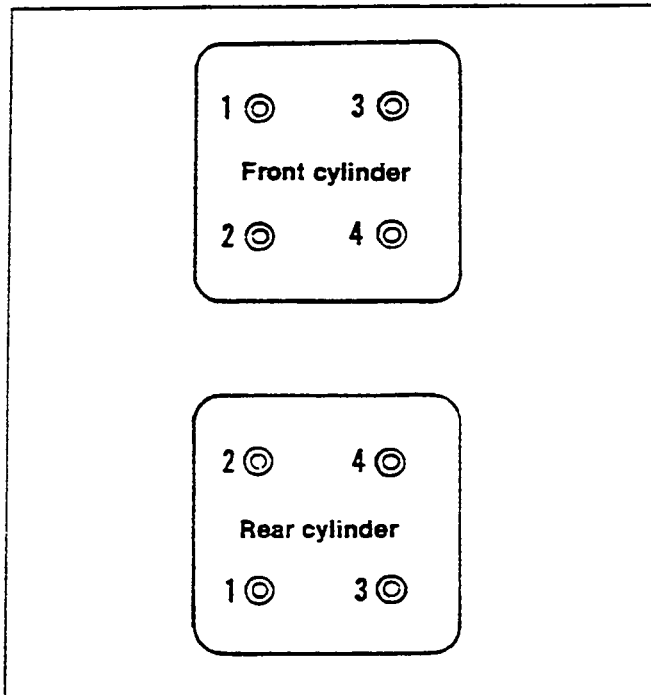

Figure 6. Cylinder Heads Torque Sequence
2. See Figure 6. Install cylinders and heads. The procedure for tightening the head bolts is extremely critical: not only to prevent gasket leaks, but to prevent failure of the studs and distortion of the heads and cylinders.
- a. See Figure 6. With a torque wrench, start at the head screw numbered "1" and tighten to 7 ft-lbs torque. Then tighten "2", "3" and "4", in order, to 7 - 9 ft-lbs torque.